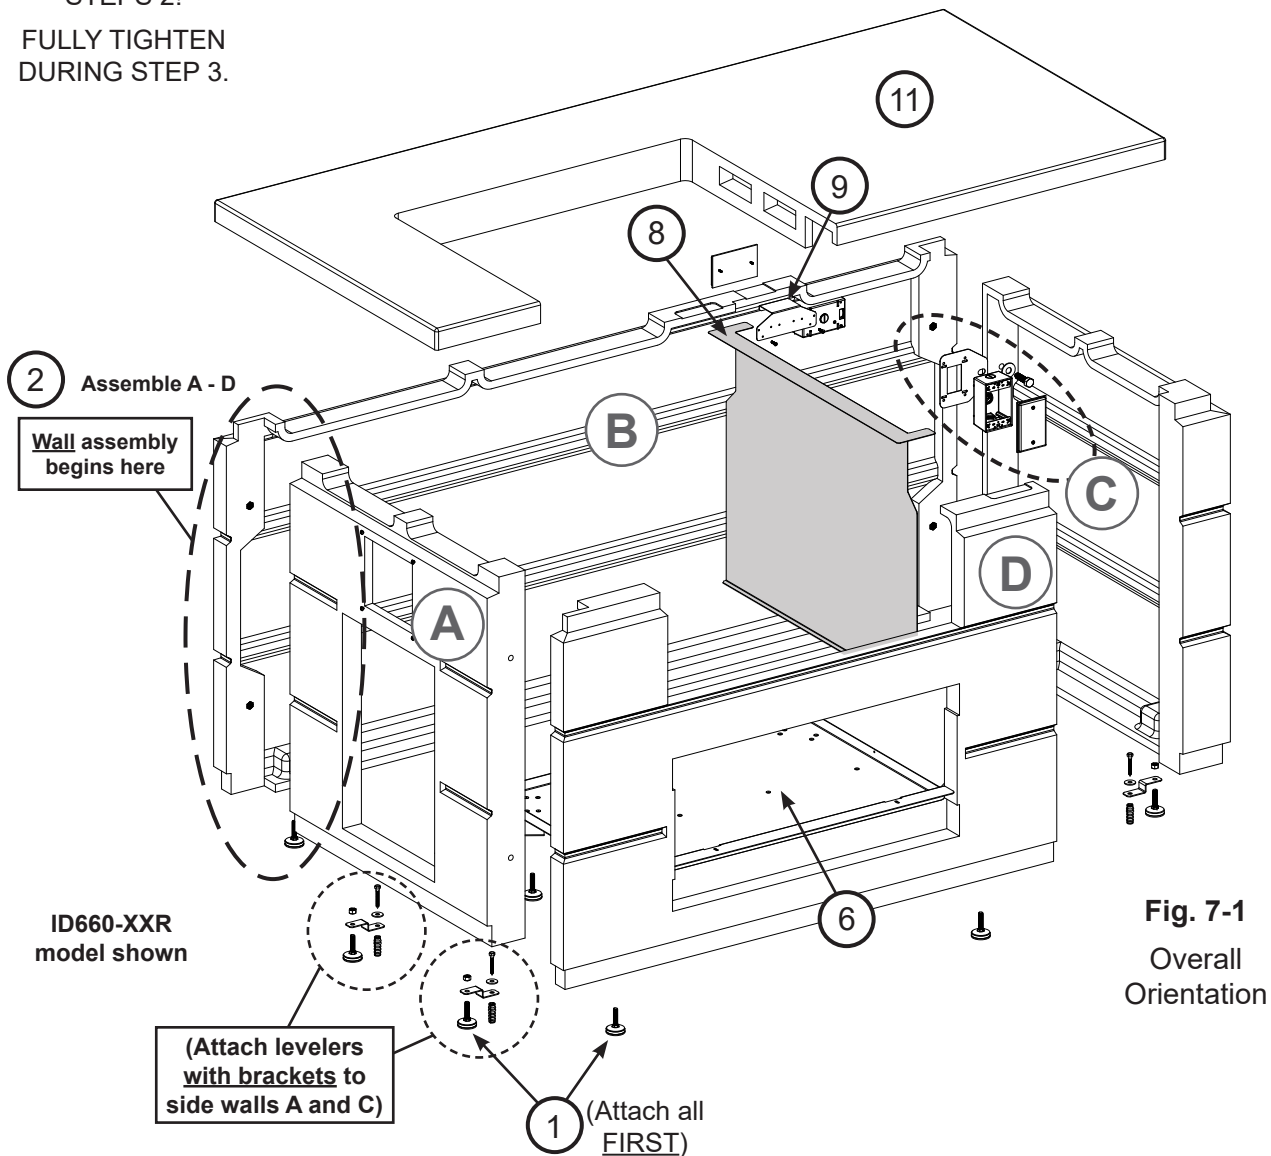

Fig. 7-1
- Fig. 7-1 provides an overall orientation and bolt assembly detail for the island.